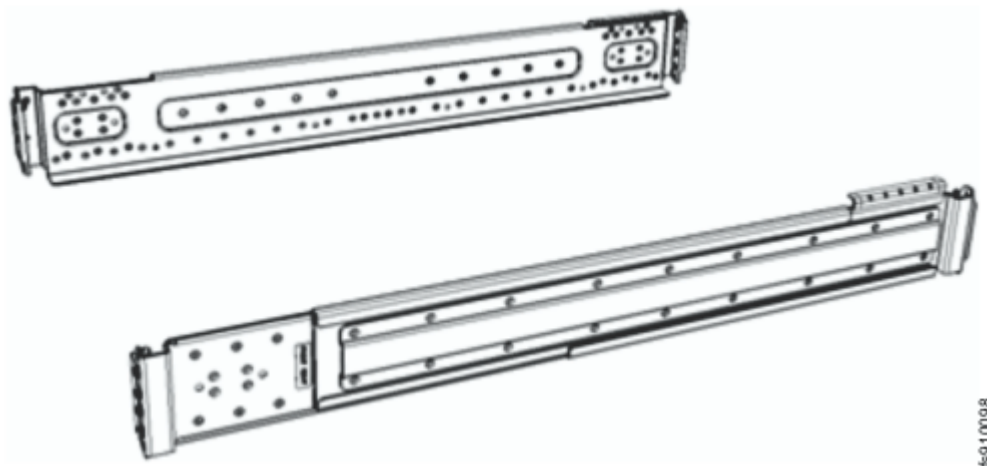

Figure 23. Control enclosure support rails
1. Locate the control enclosure rails, as shown in Figure 23 on page 65.